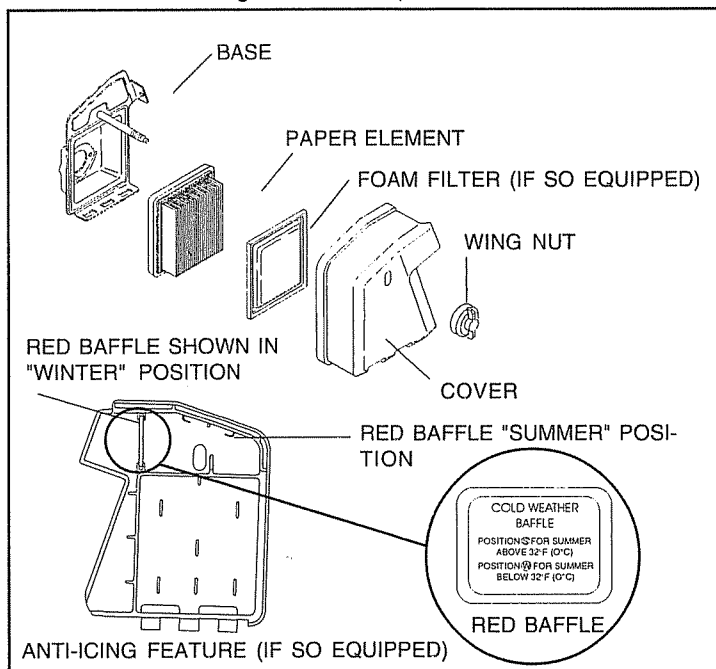

Figure 6
A. TO REMOVE AND INSTALL FILTER(S) (see Figure 6):
B. TO SERVICE FILTER(S) (see Figure 6):
IN TEMPERATURES 32°F (0°C) AND BELOW: (See figure 6)